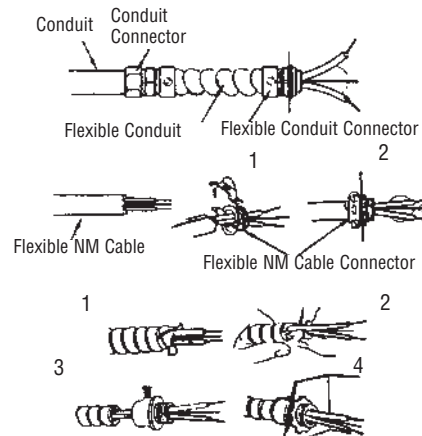

Figure 2 - Connectors, cable, and hardware used to wire the UH-524TA
**NOTE:** For certain applications, conduit may be required (see Figure 2). Check local electrical codes. If wiring is run in conduit, be sure there is enough flexible conduit to allow the heater to be turned if necessary.
2. Attach the cable connectors to the unit (See Figure 2) and slide the 8 or 10 gauge wire (see page 2) through the cable connector. Pull enough wire through the connector to work with when making the the connections.